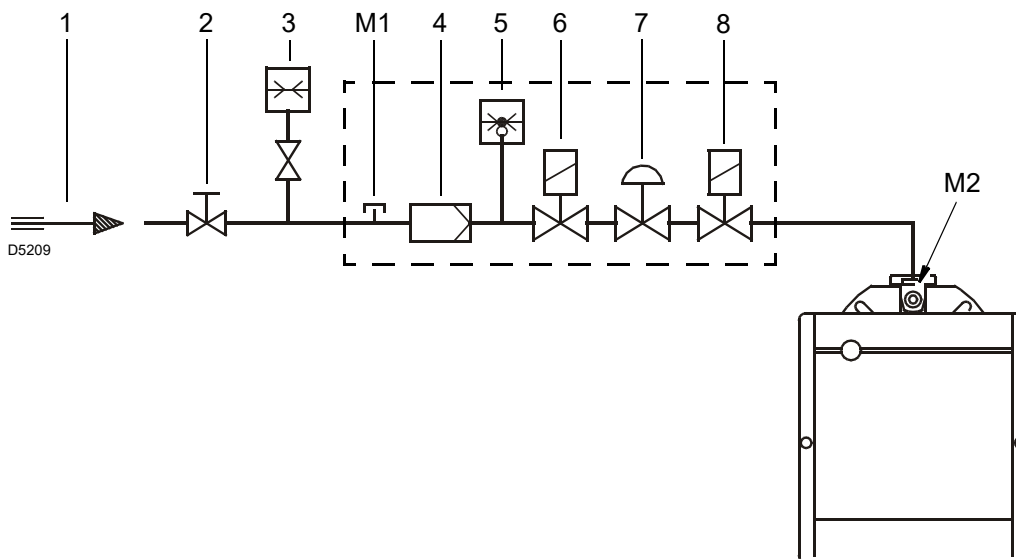

Fig. 17
Key (Fig. 17)
Gas pressure measured at test point M2)(Fig. 17 on page 19), with:
- subtract the pressure in the combustion chamber from the pressure of the gas at test point M2)(Fig. 17 on page 19).
Gas pressure at test point M2)(Fig. 17) = 10.0 mbar
To calculate the required gas pressure at test point M2)(Fig. 17 on page 19), with the maximum modulating output at which you want the burner to operate having been fixed:
- Read on the right, column 1, the pressure at the test point M2)(Fig. 17 on page 19).